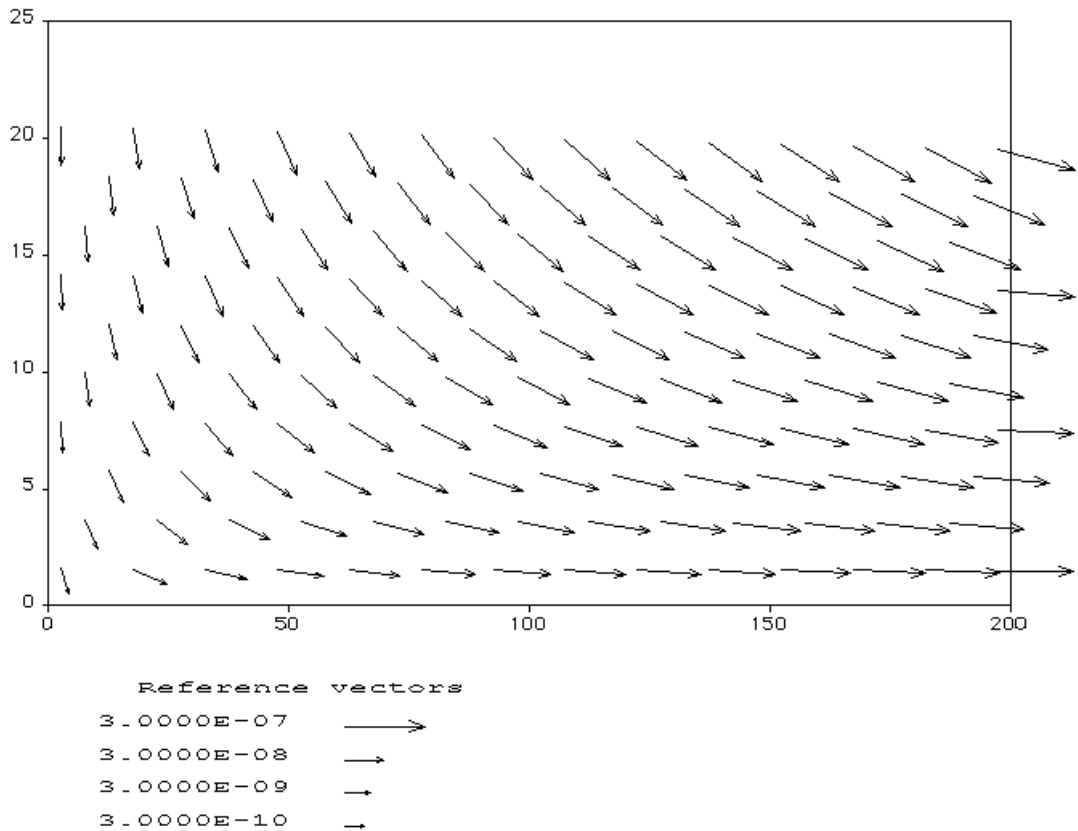

Figure 3. 2D velocity vector output from Step-by-step Application 2.
8. In the **Properties** menu select **Vector Properties**. In the **Vector Properties** dialog, select **Logarithmic function** under **Vector scaling factors** (see Appendix B). Under **Vector size adjustment**, click the check box to the right of **Vector magnitude**. Enter “125” in the adjacent value box. The plot is redrawn with the new vector properties. The plot in the graphics window should be similar to Figure 3.
12. Click **Apply** and the plot is redrawn with the set of vectors. The set of vectors is the same as those selected using the **Bounding box** option, and the plot in the graphics window is again similar to Figure 3.